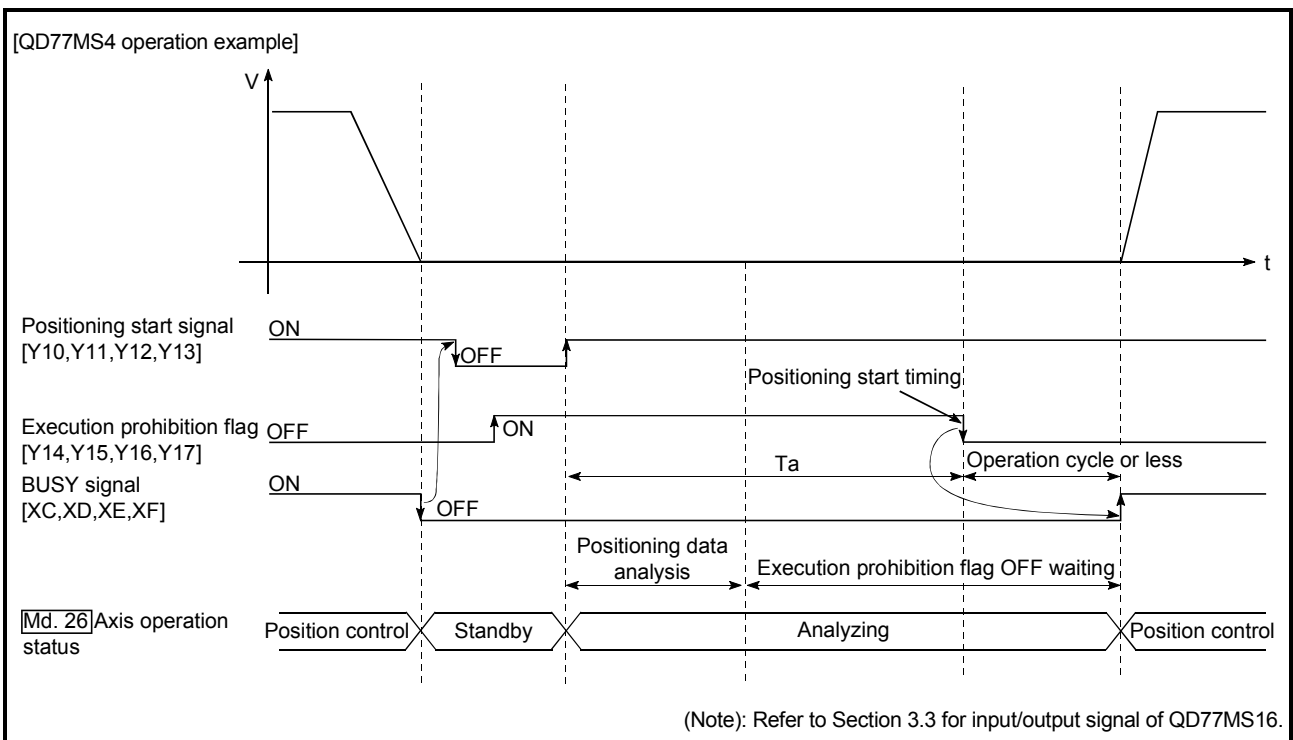

Fig. 13.48 Operations of pre-reading start function
The pre-reading start function is performed by turning ON the positioning start signal with the execution prohibition flag ON, or by executing the dedicated instruction (ZP.PSTR1, ZP.PSTR2, ZP.PSTR3, and ZP.PSTR4). However, if positioning is started with the execution prohibition flag ON, the positioning data is analyzed but servo start is not provided. While the execution prohibition flag is ON, "[Md.26] Axis operation status" remains unchanged from "5: Analyzing". The servo starts within operation cycle after the execution prohibition flag has turned OFF, and "[Md.26] Axis operation status" changes to the status (e.g. position control, speed control) that matches the control system. (Refer to Fig.13.48)
- (1) The time required to analyze the positioning data is up to 0.88ms (QD77MS2/QD77MS4)/3.55ms(QD77MS16).
- (2) After positioning data analysis, the system is put in an execution prohibition flag OFF waiting status. Any change made to the positioning data in the execution prohibition flag OFF waiting status is not reflected on the positioning data. Change the positioning data before turning ON the positioning start signal.
- (3) The pre-reading start function is invalid if the execution prohibition flag is turned OFF between when the positioning start signal has turned ON and when positioning data analysis is completed ($T_a < \text{start time}$, T_a : Refer to Fig. 13.48).
- (4) The data No. which can be executed positioning start using "[Cd.3] Positioning start No." with the pre-reading start function are No. 1 to 600 only. Performing the pre-reading start function at the setting of No. 7000 to 7004 or 9001 to 9004 will result in the error "Outside start No. range" (error code: 543).
- (5) Always turn ON the execution prohibition flag at the same time or before turning ON the positioning start signal. Pre-reading may not be started if the execution prohibition flag is turned ON during T_a after the positioning start signal is turned ON. The pre-reading start function is invalid if the execution prohibition flag is turned ON after positioning start with the execution prohibition flag OFF. (It is made valid at the next positioning start.)